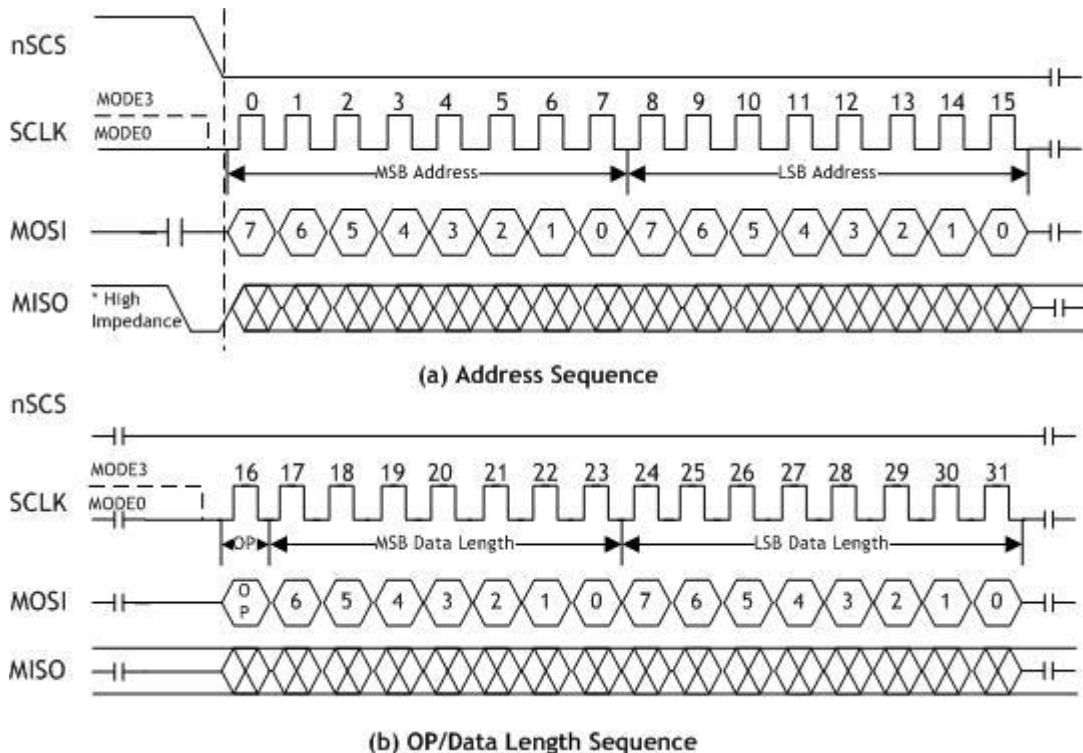
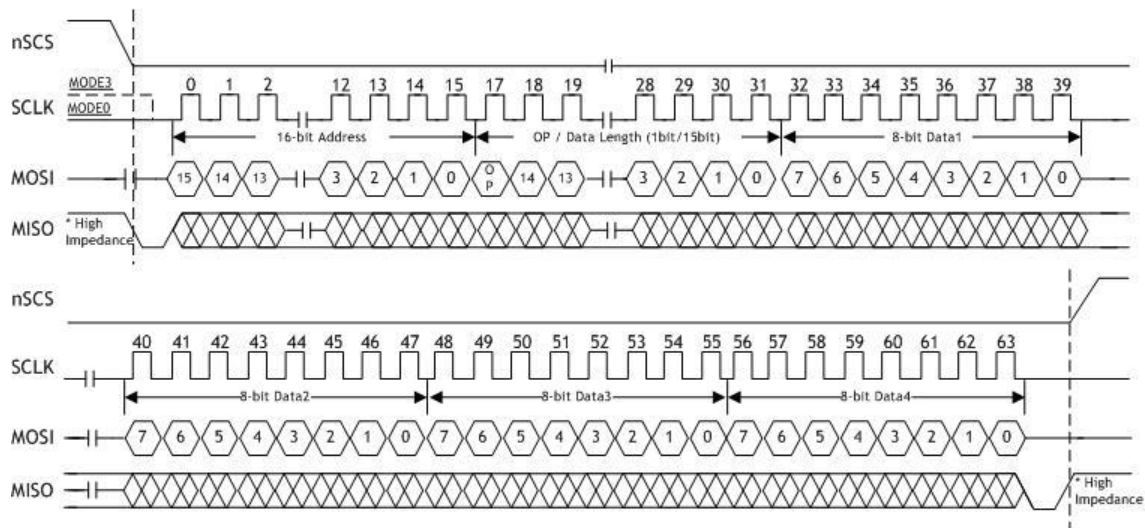

Figure 19 Address and OP/DATA Length Sequence Diagram
Figure 20 READ Sequence
The READ Processing Sequence Diagram is shown in Figure 20. The READ processing is entered by driving nSCS low, followed by the Address, the OP code, the Data Length and the Data byte on MOSI. The Address, the OP/Data Length Sequence Diagram and the Data are shown in Figure 19. The OP code (OP) is defined type of the READ OP and WRITE OP. On OP = 0, the read operation is selected. Otherwise, the write operation is selected. In W5200 SPI mode, the Byte READ processing and the burst READ processing are provided. The Byte READ processing takes 4 instructions which consist of the 16-bit Address, the 1-bit OP code (0x0), the 15-bit Data length and 8-bit Data. Otherwise, The Burst READ processing only takes the Data instruction after the setting of the burst read processing. To distinguish between the Byte READ and the burst READ processing, the Data length is used. If the Data length is '1,' the Byte READ processing is operated. Otherwise, the Burst READ Processing is operated when the Data length is more than two. The MISO pin should be selected by driving MISO low after the falling edge of the nSCS.